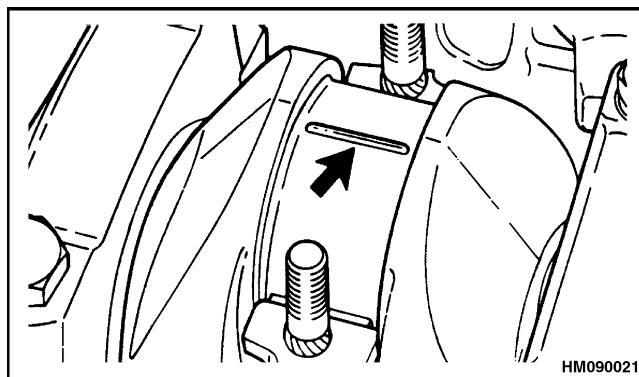

Figure 40. Bearing Journal Plastigage® Placement
- a. Put a piece of Plastigage across the full width of the bearing journal as shown in Figure 40. Do not rotate the crankshaft when the Plastigage is between the bearing and its journal.